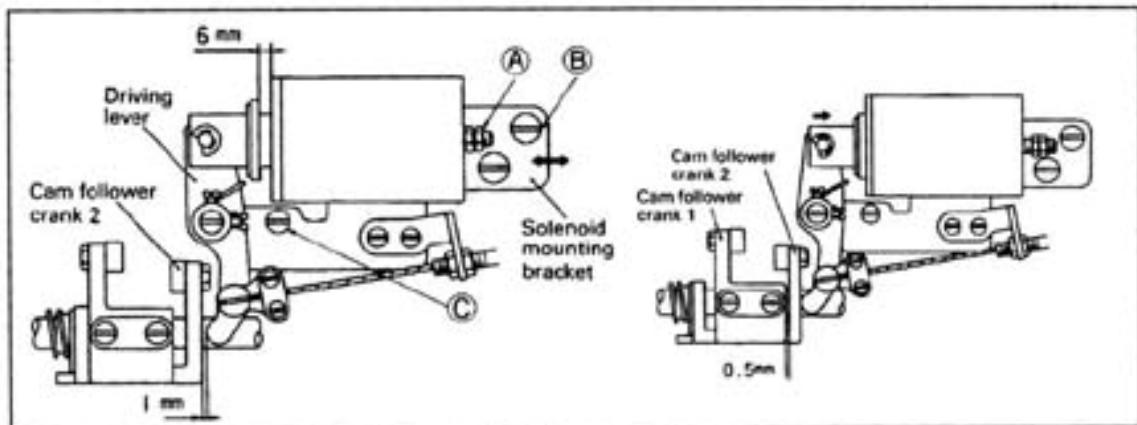

Fig.37
- 4) Installing the thread trimmer solenoid unit (Fig.37):